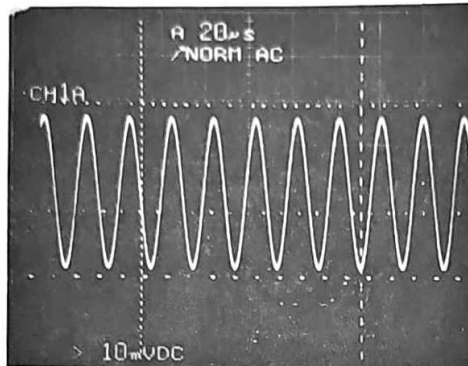

Fig. 5-26 ID Label Writing
First, the ID label erasing cursor (long underline) appears at the home position. Rotating the SHIFT knob one step clockwise changes the erasing cursor to CH1A (see Fig. 5-26). Succeeding rotation will select other ID labels in the sequence as listed in paragraph (1) above. Select a desired ID label and move it to the desired position with four arrow keys.